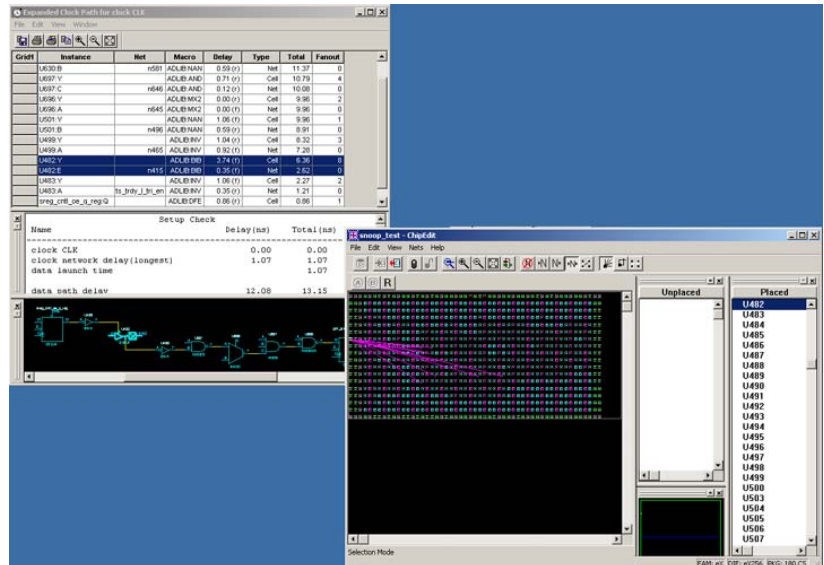

Figure 2-7. Timer and ChipEdit
6. Select a module or net in the Expanded Paths dialog box. The module or net is shown in ChipEdit, as shown in Figure 2-7.